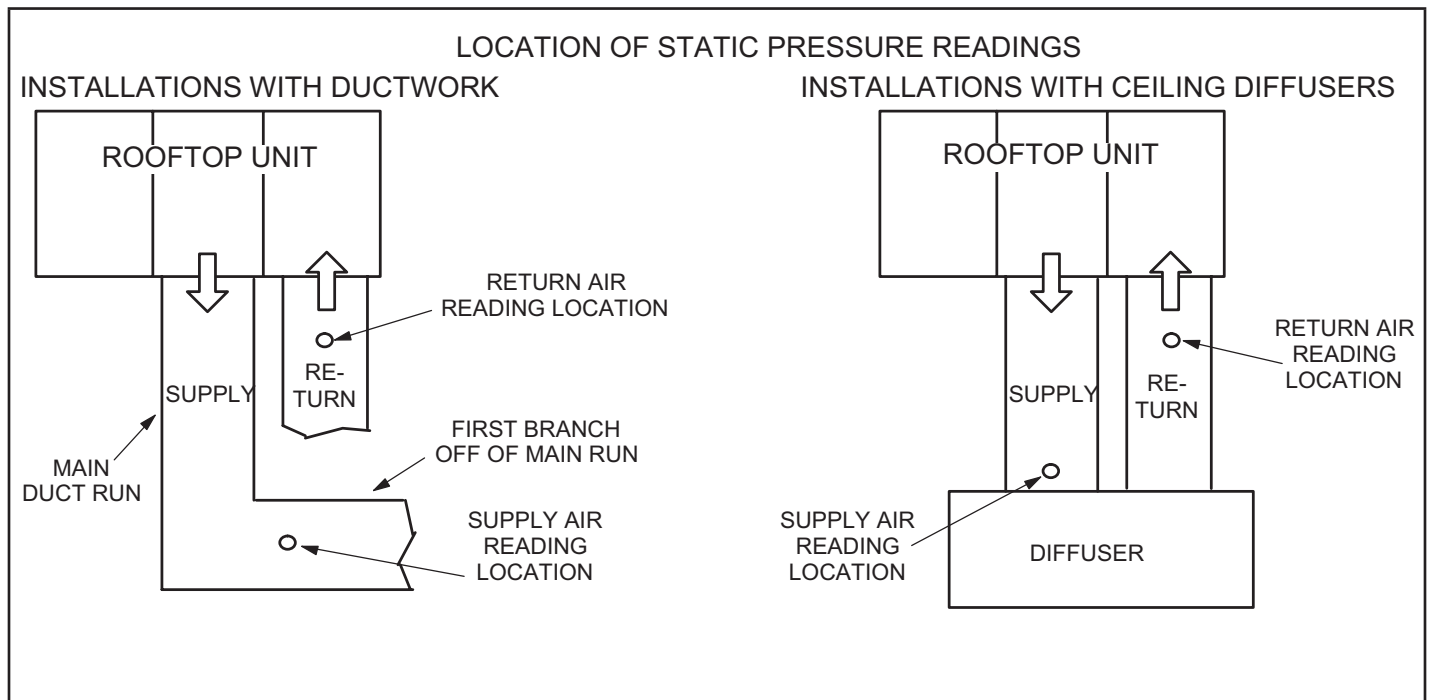

FIGURE 9
- 2 - With all access panels in place, measure static pressure external to unit (from supply to return). Blower performance data is based on static pressure taken in locations shown in FIGURE 9.